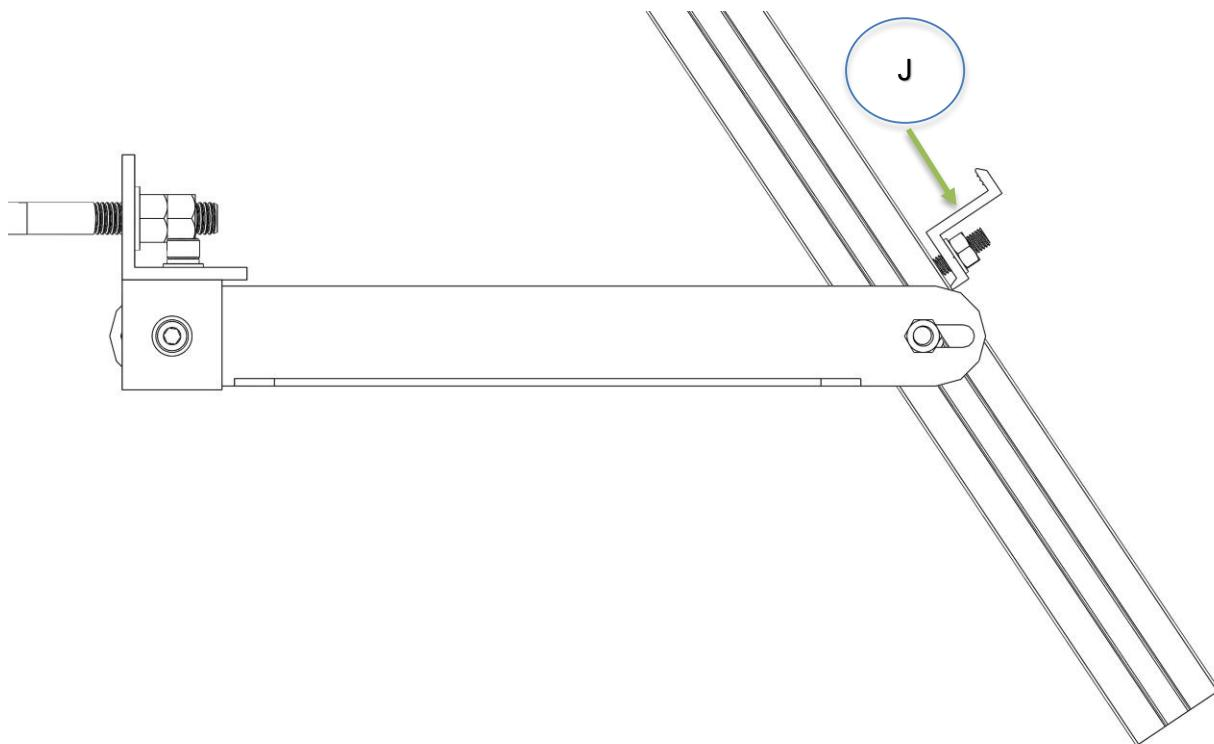

Figure 6
- A. Hold the panel up to the pole mount to determine approximate position that End Clamps (J) must be to hold panel.
- C. Slide a T-Bolt (F) through T-Slotted Bracket (A) to the appropriate location.
- D. Orient the clamps as they are in **Figure 6**.